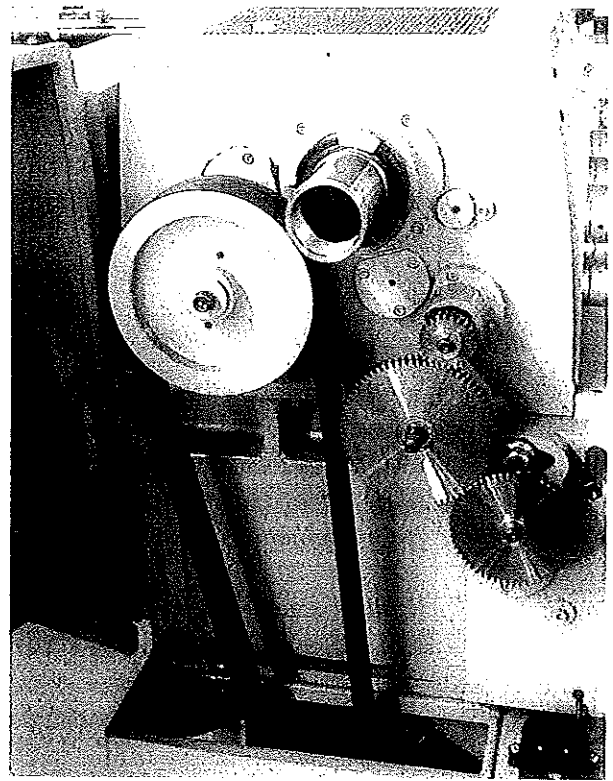
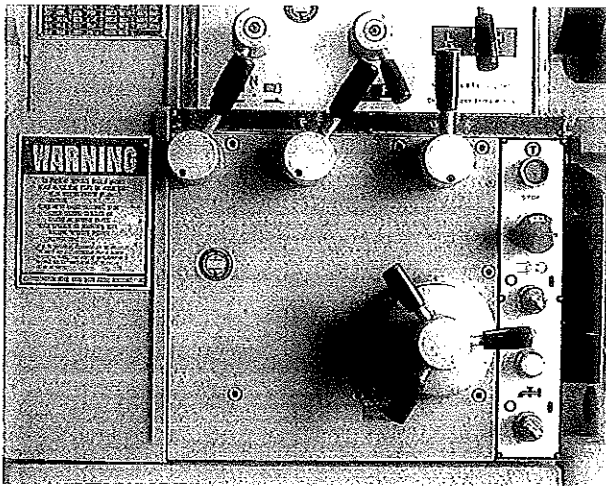

Figure 2
Figure 3
- c. If the problem is not in the headstock, and before you continue to the gear box, check the change gears (Part # 41, 78 & 89) located on the back of the headstock for proper backlash and alignment. (**Figure 2**) If these gears are found to be in good working order perform the same sequence as above on the gearbox. (engage one control at a time until the problem is located. (**Figure 3**)